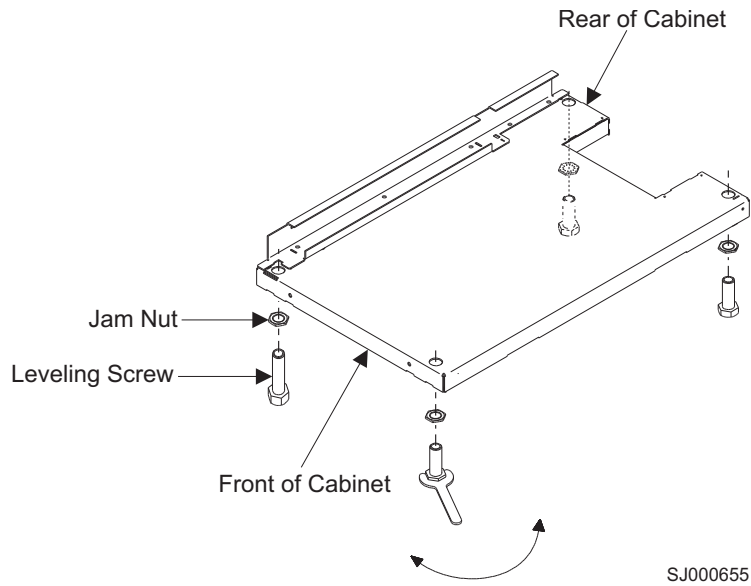

Figure 84. Adjusting the leveling feet
1. Loosen the jam nut on each leveling foot by turning the nut counterclockwise, away from the bottom of the rack. See Figure 84 on page 209.